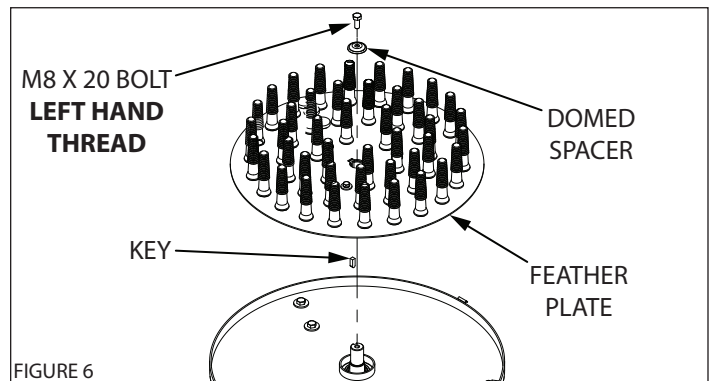

FIGURE 6
8. Insert key in output shaft. (**SEE FIGURE 6**)
(SEE FIGURE 6)